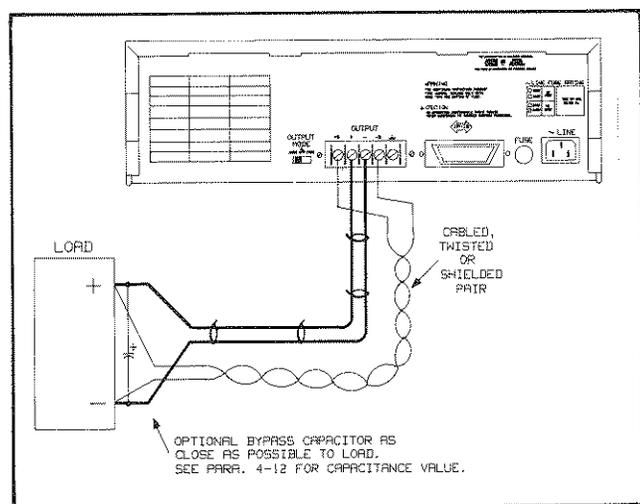

Figure 4-3. Remote Voltage Sensing
When the supply is strapped for local sensing, an unavoidable voltage drop is developed in the load leads and this adds to its voltage regulation. By connecting the supply for remote voltage sensing, (Figure 4-3) voltage is sensed at the load rather than at the supply's output terminals. This will allow the supply to automatically compensate for the voltage drop in the load leads and improve regulation. In remote sensing, the VOUT? query and the front-panel meter monitor the load voltage at the sense points.
**Remote Sense Connections:** Turn off the supply before making or changing any connections on the rear panel terminal blocks. Connect the unit for remote sensing by first disconnecting the jumpers between sense and load terminals and then make the connections as shown in Figure 4-3. Connect the sense leads as close to the load as possible. Select your load lead from Table 4-1. The length of the leads should be as short as is practical.